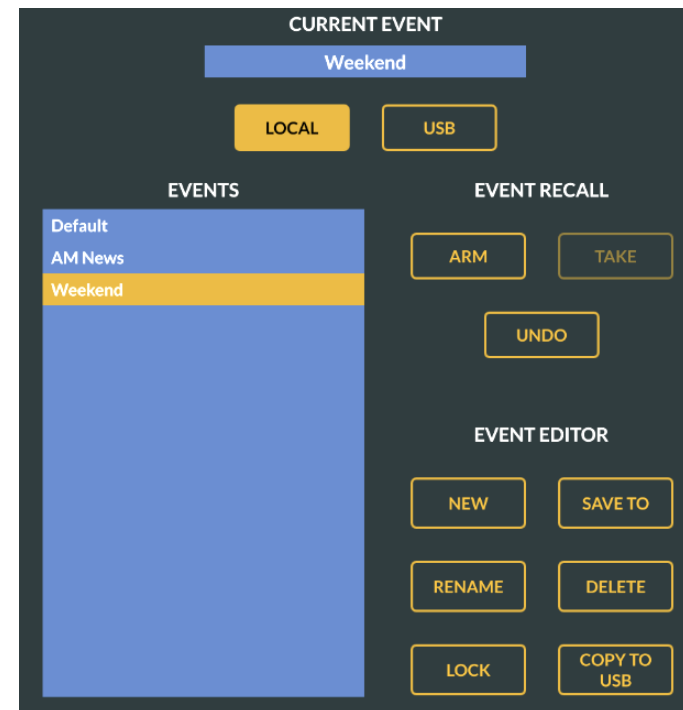

Figure 4-15 Events View
Saved Events are listed in an **EVENTS** list. Two saved Events are shown in the Events list in Figure 4-15: *AM News* and *Weekend*. Events are saved to the Surface Host’s solid state drive when the **LOCAL** button is active, as shown in Figure 4-15. Events can also be saved or taken directly from a USB flash drive/memory stick plugged into either USB port on the Master module. Tap the **USB** button (it turns gold) to list the saved Events on a USB memory stick.
- Tap an Event name in the Event List to highlight it (like **Weekend** in Figure 4-15 on the last page).